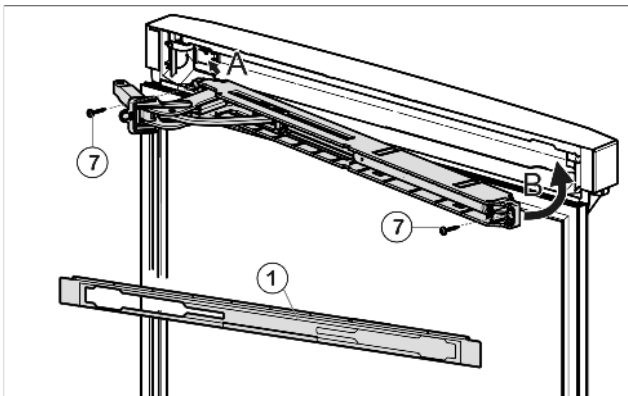

Fig. 58
- ▶ With the hinge of the upper soft stop unit facing the door hinge side, engage the soft stop unit (A) and swivel inwards (B).
- ▶ Tighten soft stop unit (2 x Torx 15) Fig. 58 (7).